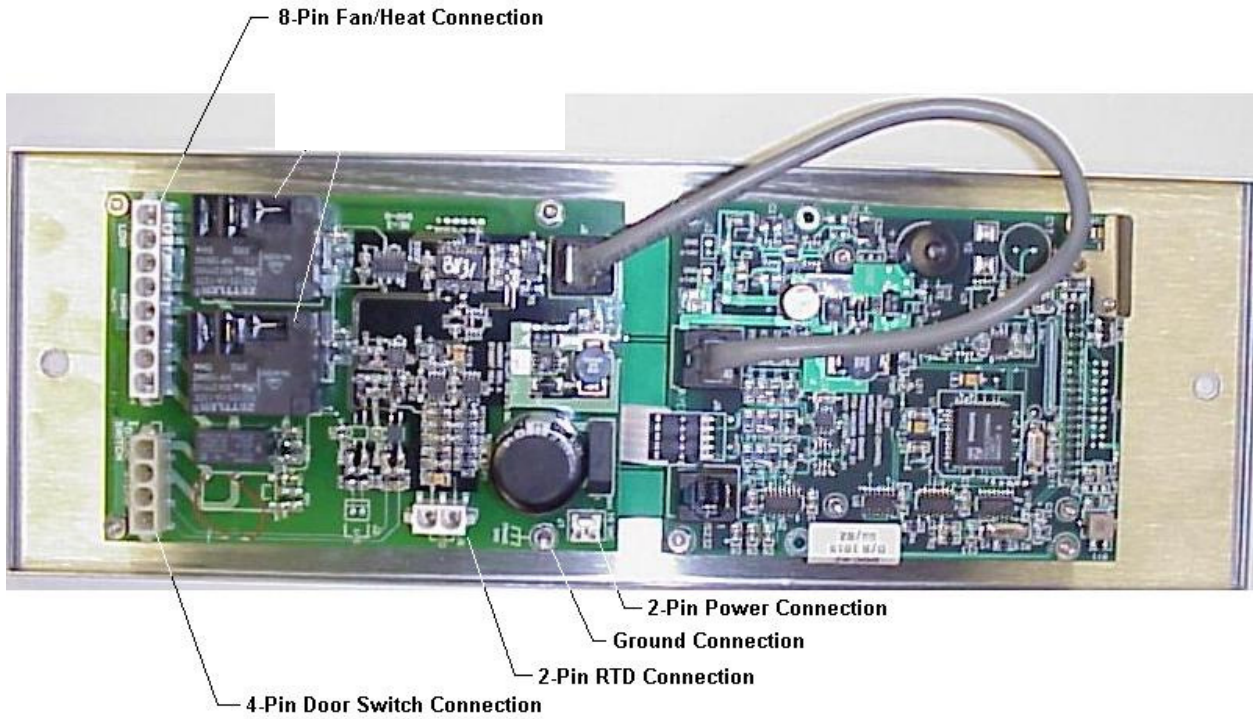
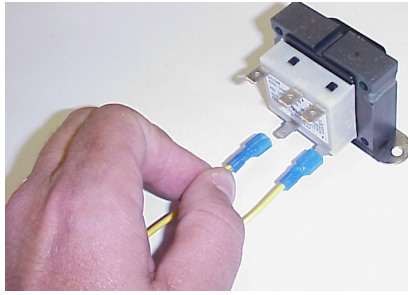

Figure 1A New Control Board Identifications and Connections
Figure 3
Original ovens shipped with the ZP control have different electrical connections from the current controls. We are changing out these controls in order to commonize the electrical connections on all controls. Note: See Figure 1A and 1B for board identification. Note: If your unit already has the new control board, this retrofit is not necessary.
- 7) Hook up ground wire using ground nut indicated in Figure 1A.
detaching at the transformer (See Figure 3).
- 9) Install the new Harness - Transformer to Control Harness (Item A). Attach one end of this harness to the control board (See Figure 1A) and the other end to the transformer secondary (See Figure 3). Note: Either wire can be hooked up to either tab.
- 12) Attach Harness - Door Switch to the control (See Figure 1A)
- 15) Attach Harness - Heat/Fan to control (See Figure 1A)
- 17) Install new Probe-RTD (Item D) and connect to the control board (See Figure 1A). Note: An extra grommet (Item E) has been provided if necessary.